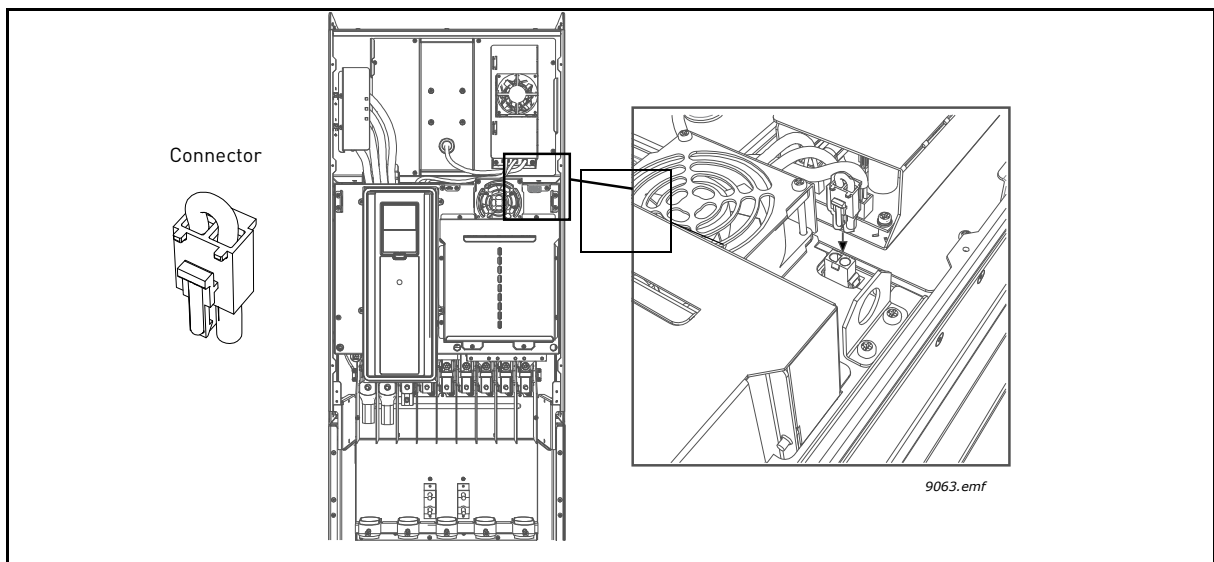

Figure 57.
**1** Find the *Molex* connector in the accessories bag. Remove the main cover of the drive and locate the place for the connector next to the fan. Push the Molex connector in its place. See Figure 57.